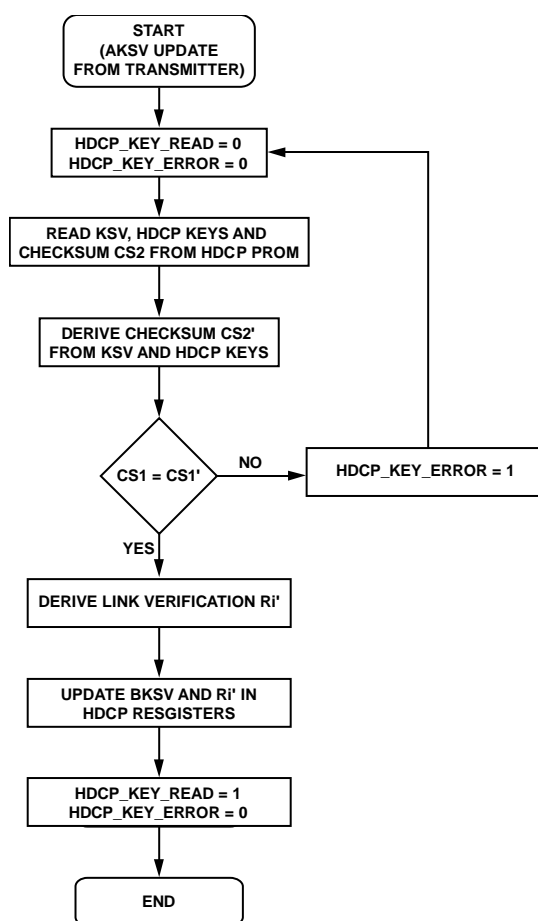

Figure 12. HDCP ROM Access After KSV Update from the Transmitter
- After a KSV update from an HDCP transmitter, the ADV7619 reads the KSV and all keys in order to carry out the link verification response (refer to Figure 12).